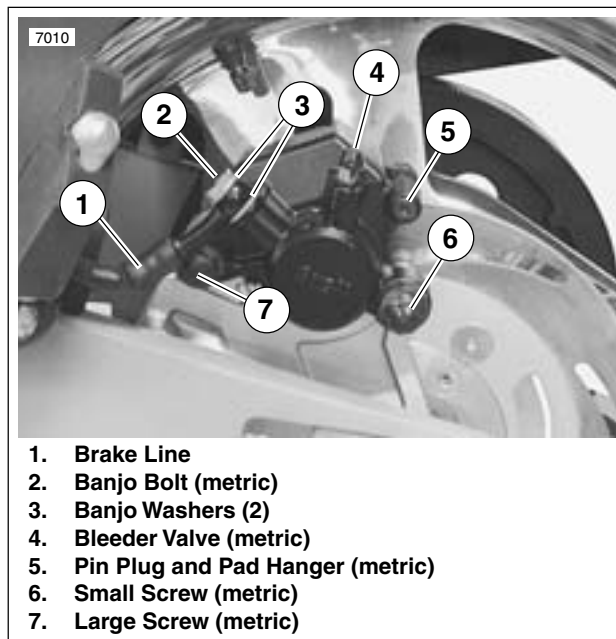
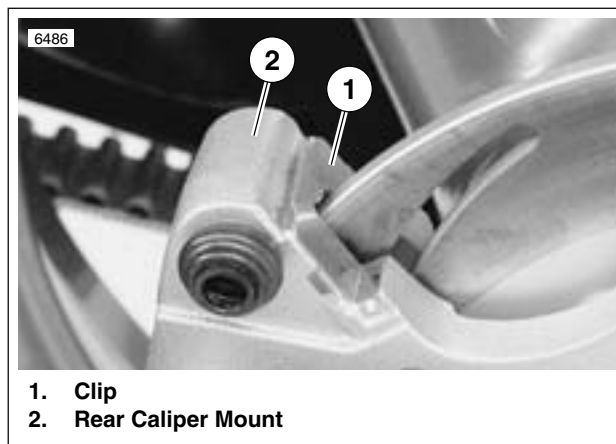

Figure 2-41. Rear Brake Caliper (Typical)
Figure 2-42. Caliper Mount Clip
2. See Figure 2-41. Remove banjo bolt (2) (metric) and two banjo washers (3) to disconnect brake line (1) from caliper. Discard banjo washers.
3. Remove small screw (6) (metric) and large screw (7) (metric) to detach caliper from mount.
4. See Figure 2-42. Remove clip (1) from rear caliper mount (2) if necessary.
1. See Figure 2-41. Remove pin plug and pad hanger (5) (metric) to free brake pads.
2. See Figure 2-42. Remove clip (1) from caliper body.
- See Figure 2-42. Install caliper mount clip (1) if removed.
- See Figure 2-41. Install caliper assembly on caliper mount. Brake pad surfaces must face rear brake rotor.
- Install large caliper screw (7) (metric). Tighten to 18-22 ft-lbs (24-30 Nm)
- Install small caliper screw (6) (metric). Tighten to 14.5-18 ft-lbs (20-24 Nm).